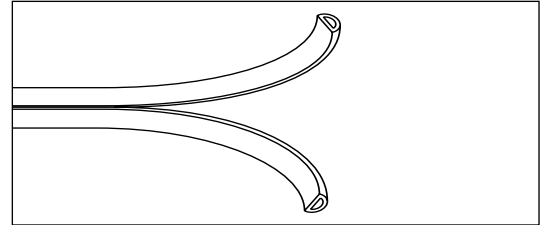

FIGURE 2. Carefully separate seal strip.
- Carefully separate (NOTE: PULL APART - DO NOT CUT) seal strip. (Fig. 2)